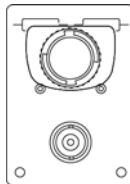

Figure 21 Signal to Both Inputs
- 19 Connect the input of the probe to the test board in the position shown in Figure 21.